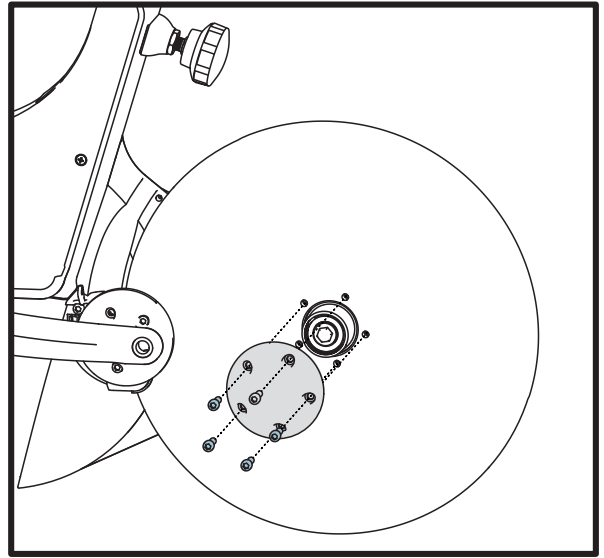

Figure 4. Flywheel and Hubcap Installation
- a) Align the holes of the hubcap with the holes of the flywheel, refer to Figure 4.